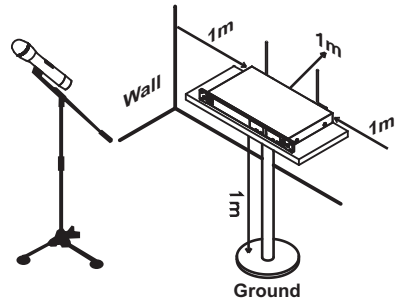

Fig. 7
2. For improving reception range, install the receiver at least 1 meter above the ground and away from EMI / RFI "noise" sources. In addition, place the transmitter at least 1 meter away from the receiving antenna, as Fig. 7.